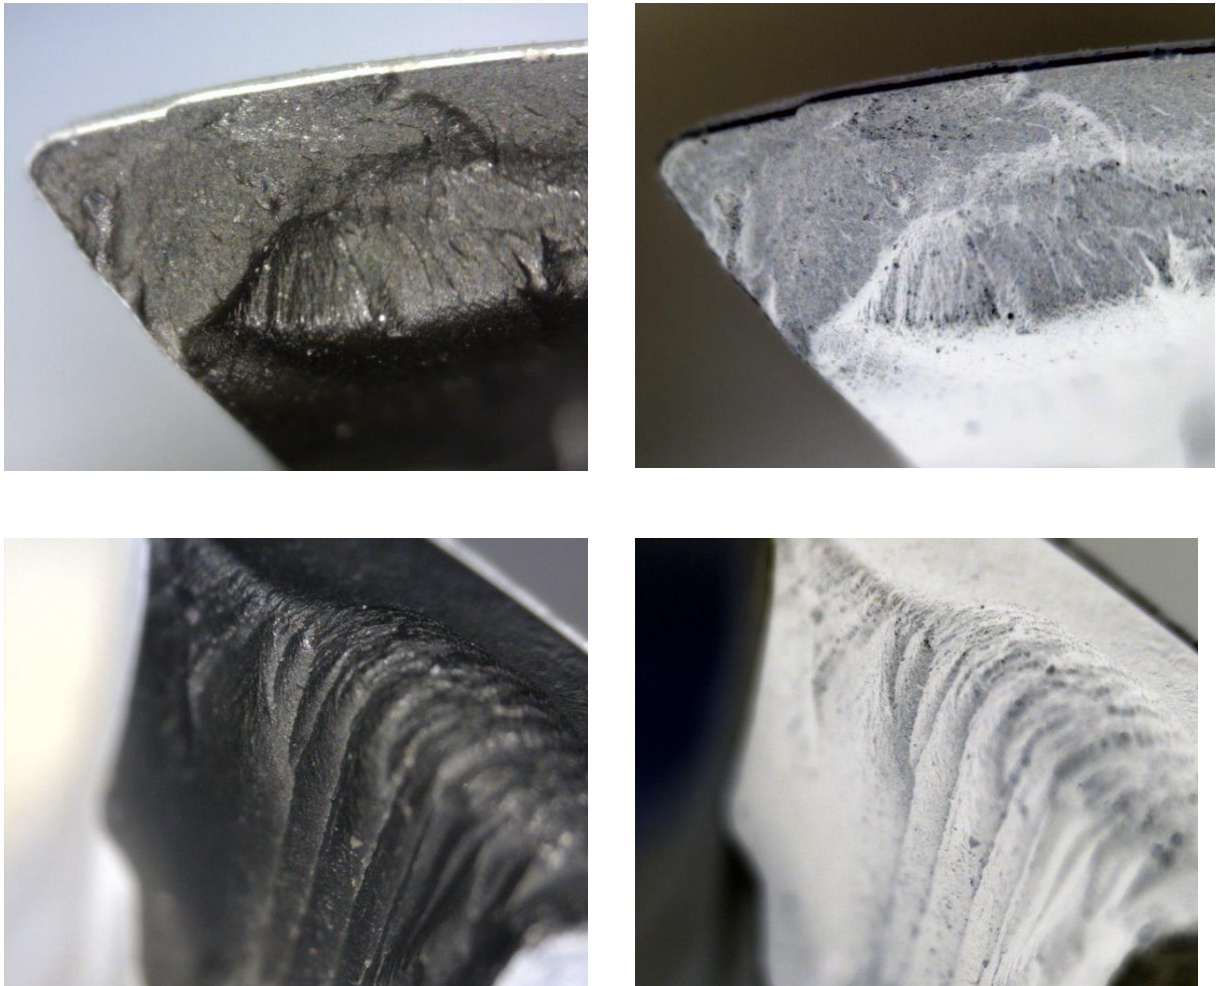
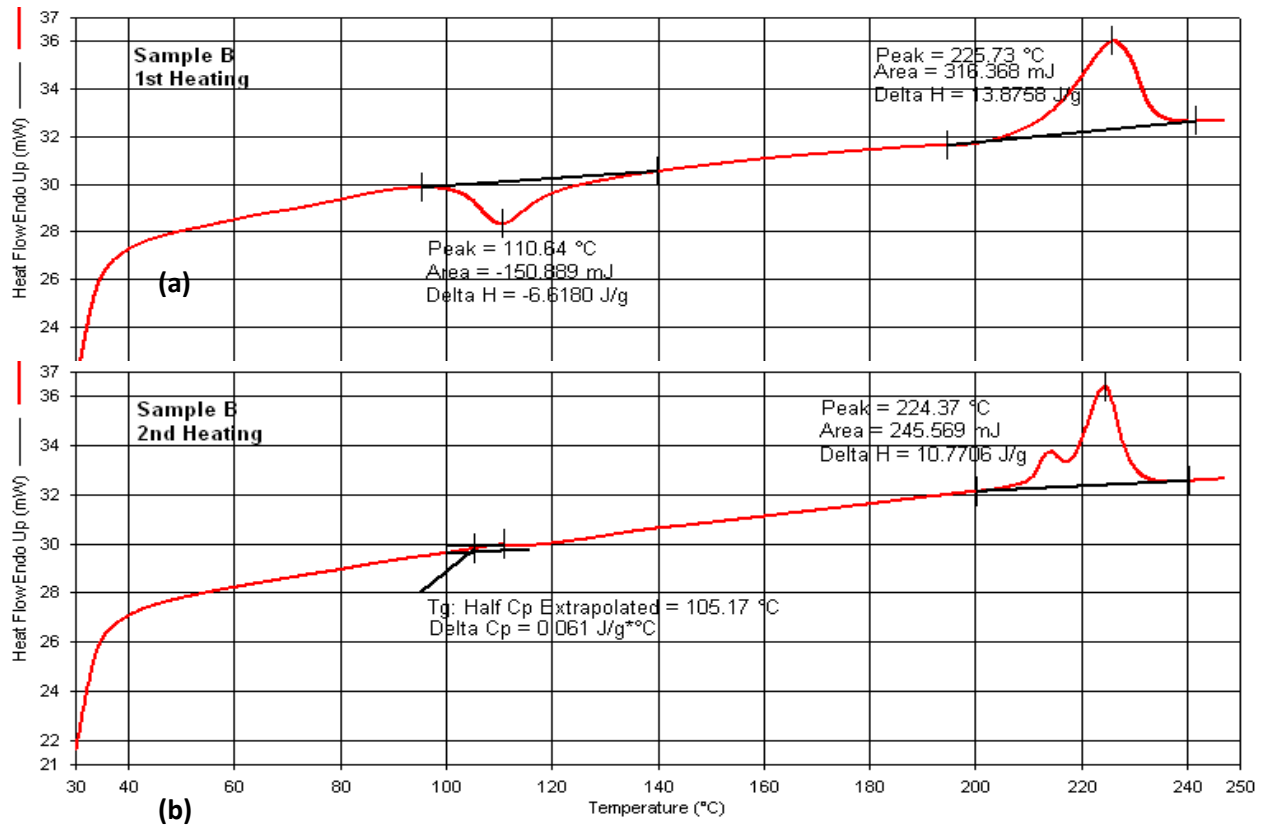

Figure 2: Fractography images of the failed components
Figure 3: DSC curves for one of the failed components, (a) 1st heating cycle and (b) 2nd heating cycle.
- (b). An injection moulding company producing components for automotive sensor casing made of PC/PBT blends was facing a serious cracking problem that cause catastrophic failure. When these failed components were characterized through two analyses, i.e. fractography using polarized optical microscope and Differential Scanning Calorimetry (DSC). The results for the analyses are shown in Figure 2 and Figure 3 respectively.